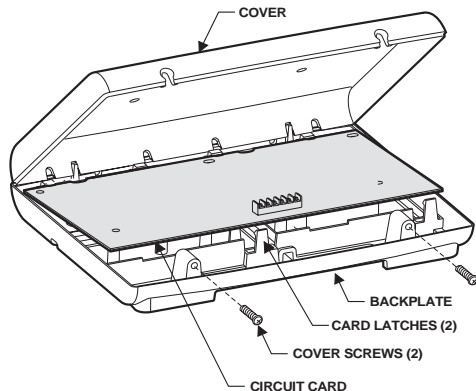

Figure 3. Removing the Plastic Cover
1. Remove the transceiver cover and the circuit card and set them aside (see Figure 3).